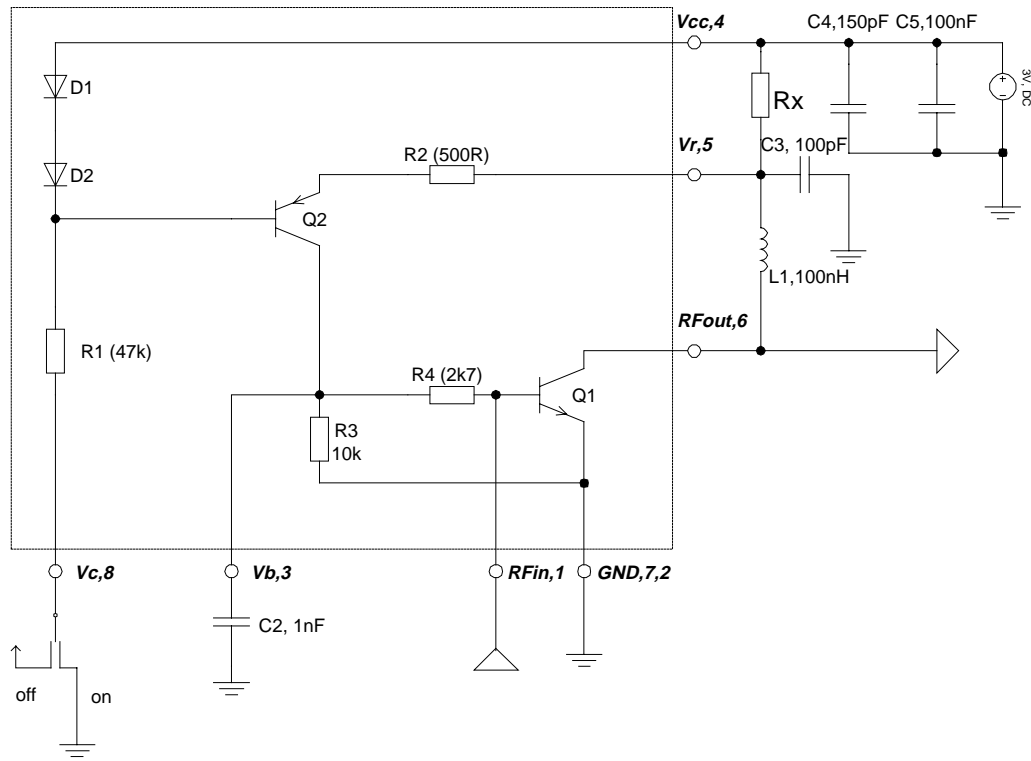

Figure 1. Typical Application and Internal Circuit
**Electrical Specifications (Measured in Test Fixture applying the circuit specified in Figure 1 with  $R_x=82\Omega$ ),  $T_c=25^\circ\text{C}$ ,  $V_{CC}=3\text{V}$ ,  $I_{CC}\approx 7\text{mA}$  unless noted**